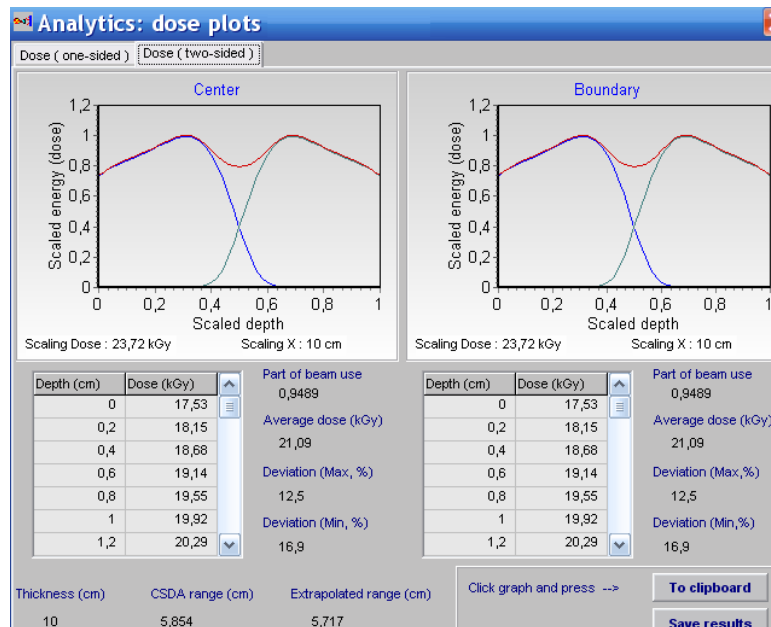

Fig.17. 2D view of the absorbed dose distributions under two-sided irradiated target with package in graphical and tabular forms.
- **Select “2D graphing”** - The form "**Dose plots**" after **Analytic calculation** for analysis of the **2D absorbed dose and charge distributions** for irradiated target with package **under one/two-sided** in graphical and tabular forms will be opened (see Fig.17).